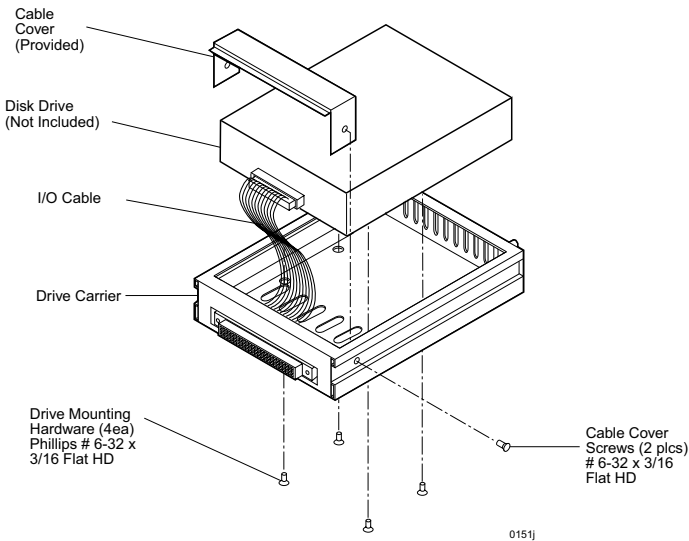

Figure 6B: Drive Installation Assembly
1. Attach the I/O cable from the rear distribution board of the DE100i-SWC carrier to the disk drive (Figure 6B).
2. Carefully insert the drive into the carrier at an angle, cable-end first. **Make sure not to pinch the cable.** Lower the front of the drive carefully into place. Fasten the drive into the carrier with four (4) #6-32 Phillips Flat Hd. screws provided.
5. Attach the provided cable cover with two (2) #6-32 Phillips Flat Hd. screws.